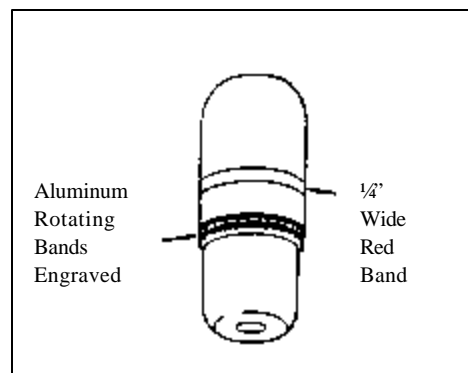

Figure 60. Typical U.S. riot control grenade.
- (8) The chemical round for the 40mm grenade system is shown in figure 60. It contains CS tear gas. This projectile is made of aluminum, with a red band in the middle of the body and a vent hole in the base.